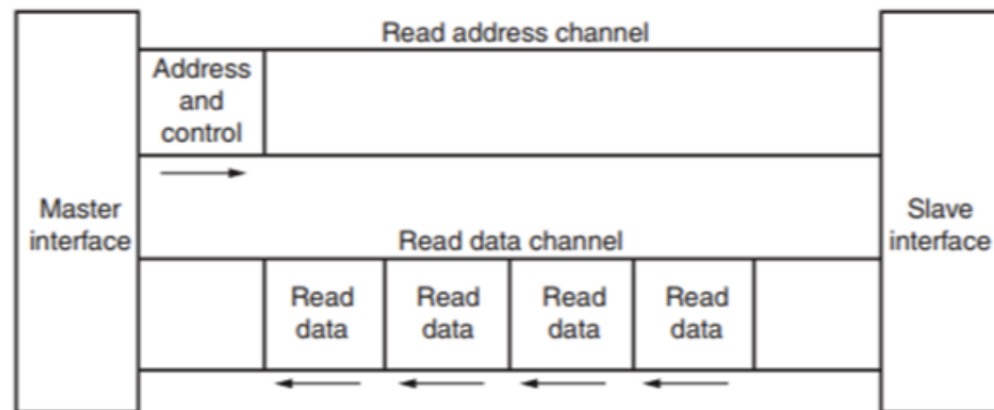

Figure 1. AXI4 Read Transaction.
- An AXI4 read transaction using the Read Address and Data channels is shown in figure 1